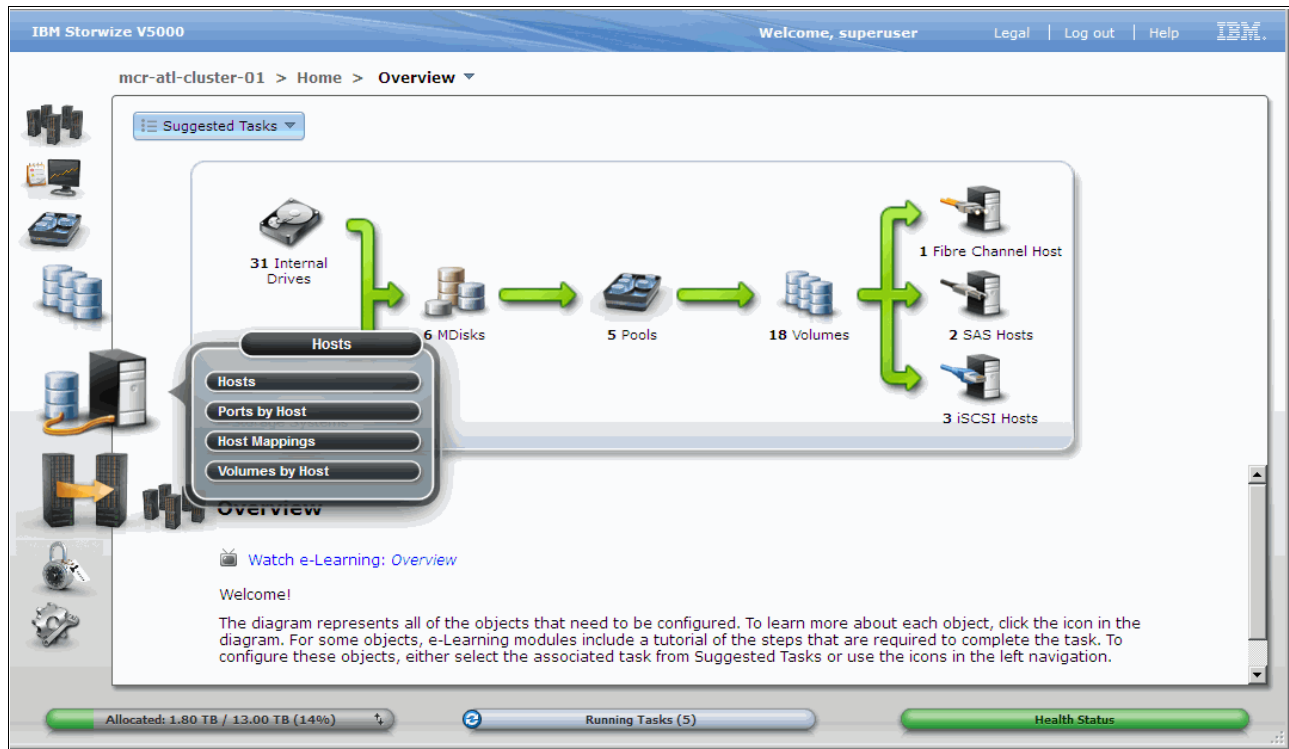

Figure 5-27 Hosts window
1. Open the Hosts window, as shown in Figure 5-27.